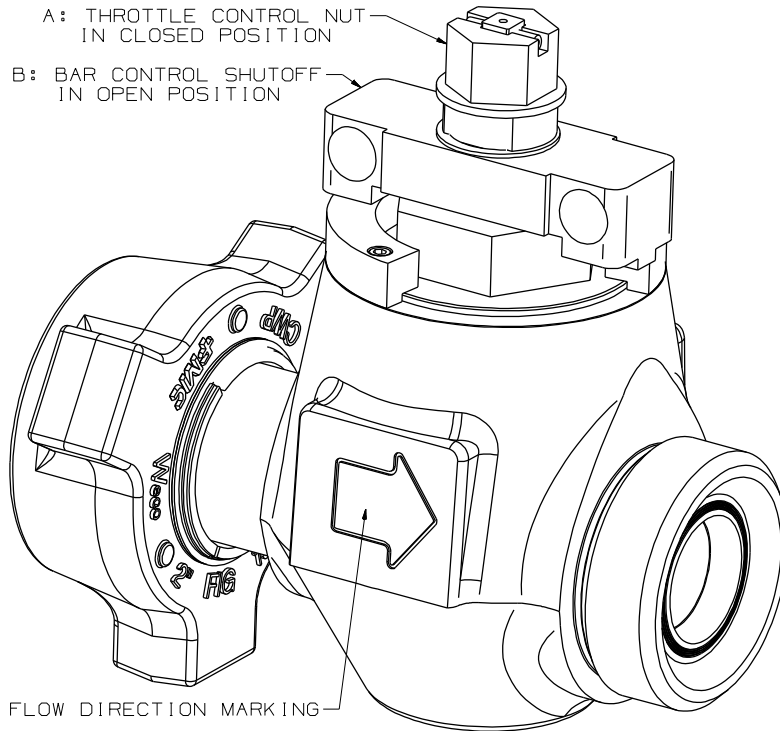

Figure 3: Shutoff is open, throttle is closed
- a) To initiate a bleed, first fully open the quarter-turn shutoff control by engaging the bar control and rotating it 90 degrees until it is in line with the flow bore. Some small amount of bleeding will begin (see Figure 3).